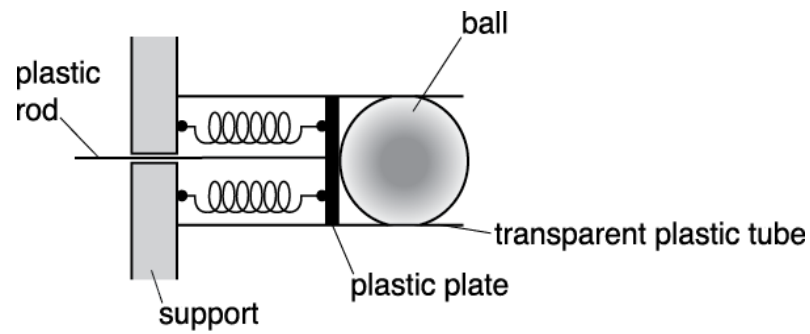

Fig. 17.1
8(a) The ball-release mechanism of a pinball machine is shown in Fig. 17.1.
Explain why the force constant of the two springs in parallel in Fig. 17.1 is equal to $2k$.
- (b) A group of students are conducting an experiment to investigate the ball-release mechanism shown in Fig. 17.1. The students apply a force F and measure the compression x of the springs. The table below shows the results.
Use your answer from (iii) to calculate the launch speed v of the ball when the plastic plate shown in Fig. 17.1 is pulled back 12.0 cm.